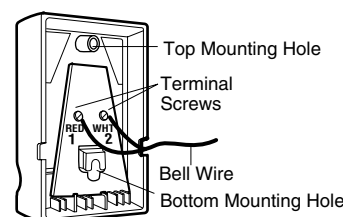

Figure 4 REMOVE COVER
- Remove white cover by gently prying at slot in top of the cover with a small flat head screwdriver (Figure 4). Fasten with 6ABx1-1/4" self-tapping screws (drywall installation) or 6-32x1" machine screws (into gang box) as follows: